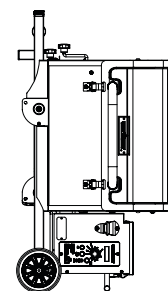

FIG. 20
5. Make sure all of the push buttons latch correctly as shown in Fig. 20